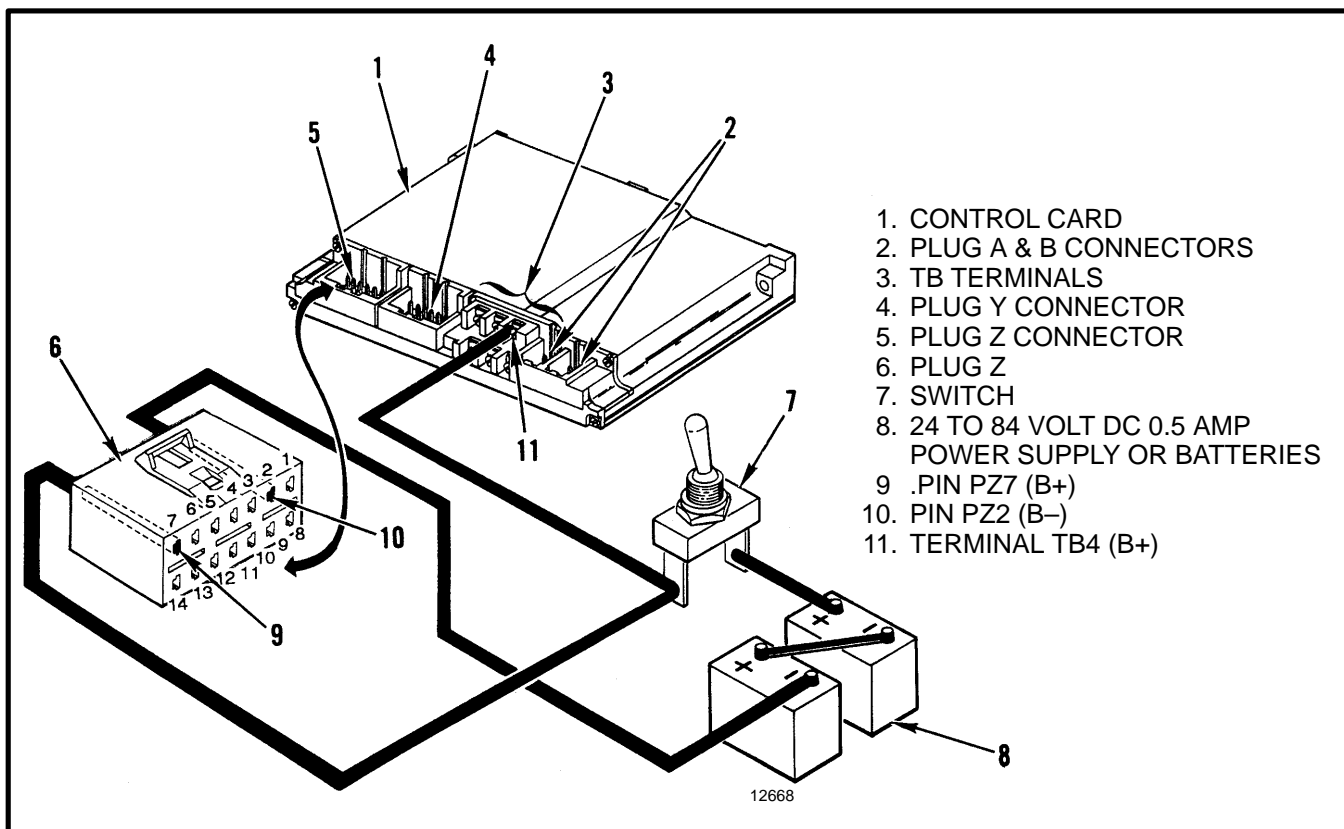

FIGURE 4. BENCH CHECKS AND ADJUSTMENTS
This section has the control card checks and adjustments that can be made using the hand set. The control card checks and adjustments are usually made with the control card installed in the lift truck. Bench checks and adjustments can also be made with the control card connected as shown in FIGURE 4. The checks show the stored setting numbers that have been stored for the different control card functions. This section also includes a description of each of the different functions. The function settings can be adjusted using the adjustment knob of the hand set. See FIGURE 1.
Connecting The Control Card For Bench Checks And Adjustments (See FIGURE 4.)
1. Connect the switch and a plug Z (Hyster part number 1308651) to the power source using the wire as shown in FIGURE 4.
2. Make sure the switch is in the **OFF** position and connect the wire to TB4 as shown in FIGURE 4.